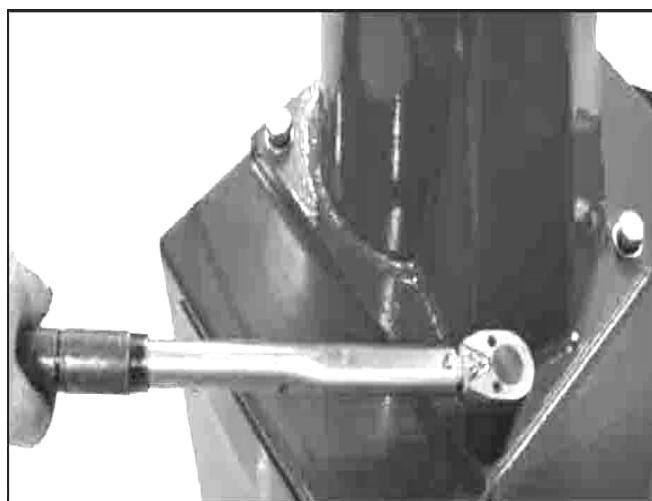

FIG5
4.2.1After un-package the package carton, take out accessory boxes (FIG 4-1) ,bead breaking arm (FIG 4-3) and column assembly (FIG 4-2) . And position and fix according to the FIG5. Remove the bolt, elastic washer and plate washer on the body (FIG 4-4) .
4.2.2 Place the column on the body. The direction of the warning label is forwards. Make the holes on the column base plate align to thread holes on the body. Once again assemble the removed the bolt, elastic washer and plate washer and plate washer removed in 4.2.1The torque is 70 N·M (FIG5) Use torsion wrench to tight